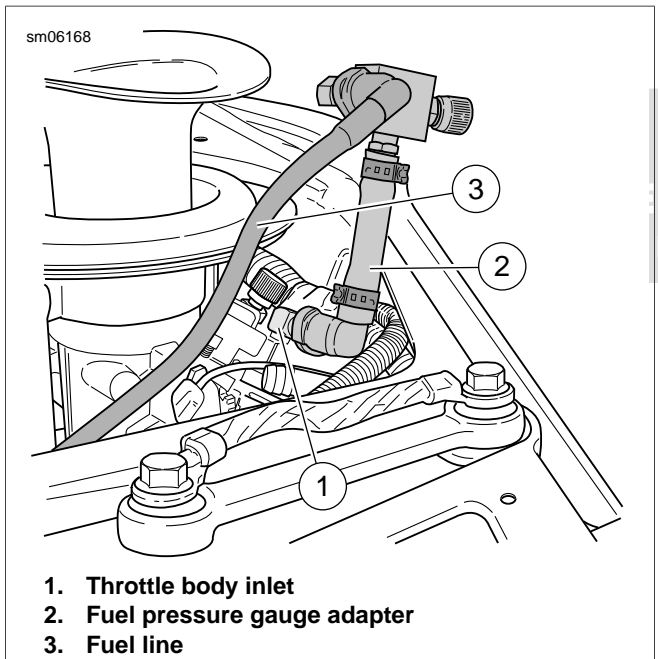

Figure 4-47. Fuel Pressure Gauge Adapter
4. See Figure 4-47. Attach FUEL PRESSURE GAUGE ADAPTER (Part No. B-45522) (2) to throttle body inlet (1).
5. Connect the fuel line (3) to fuel pressure gauge adapter.